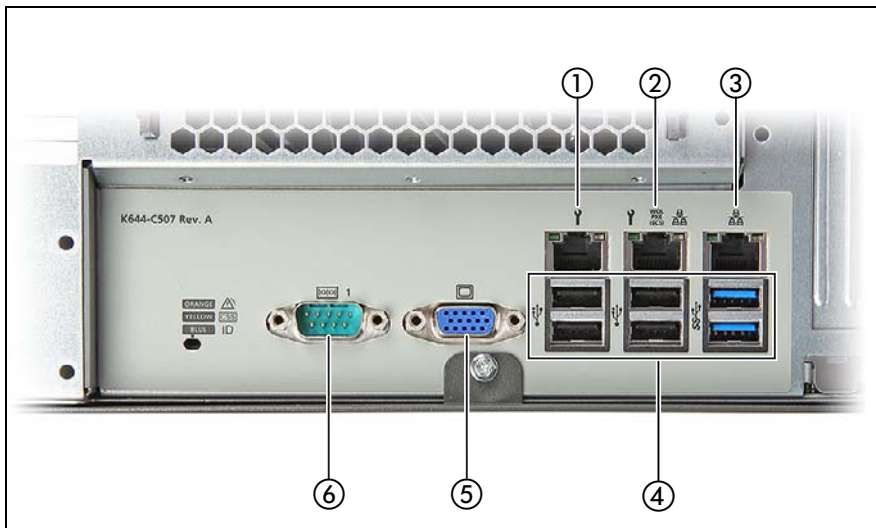

Figure 2: Connector panel on the rear side
- ▶ Connect the monitor to the video connector of the server (see figure 2 on page 54).